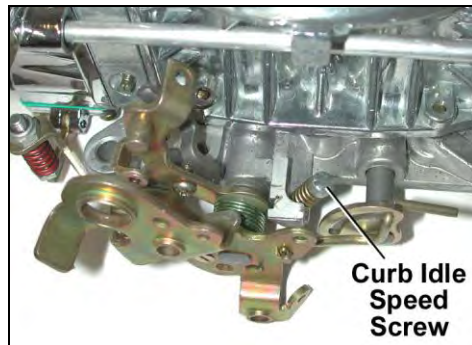

Figure 10
3. Now that the idle mixture is set, it may be necessary to go back and reset the idle speed using the curb idle speed screw, as shown in Figure 10.